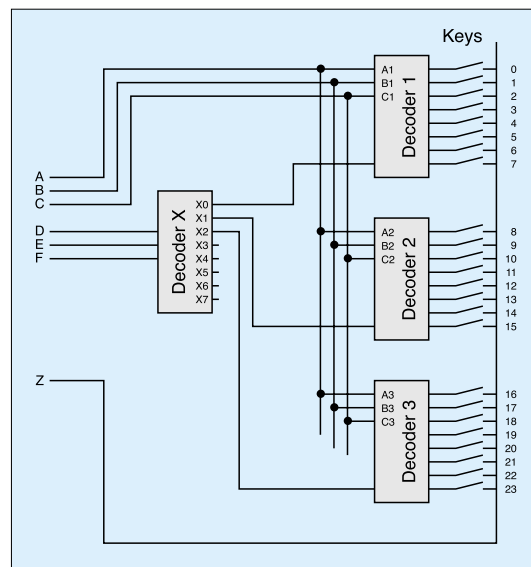

Figure 7: A simple 6-bit polyphonic keyboard decoder.
The answer lies in Figure 7 (see right), which represents the 'digitally scanned polyphonic keyboard' developed in 1973 by Dave Rossum and Scott Wedge of Emu (later renamed Emu) Systems.
If you've never studied digital electronics, you might think that you can't possibly understand this diagram, but I assure you that you can. Stick with me for a while longer, and I'll demonstrate how the 24 switches on the far right of Figure 7 can be used as the key contacts of a polyphonic synthesizer. Furthermore, I will perform magic, and show you that the single data line Z can carry all the information needed to tell the instrument which combination of keys is pressed at any given time.
Now let's return to Figure 7. We'll start by considering what happens in Decoder X if you treat the three inputs D, E and F as a binary number. Let's assume that, if the voltage at the input is 'high' (+5V) it represents a 1 and if it is 'low' (0V) it represents a 0. Since there are three lines, we can use them to represent a 3-bit binary number. Table 2 below shows all the possible values.
► 001001. This means that Decoder X enables Decoder 2, and that key 9 is 'high'. The important thing here is that, across the whole keyboard (yes... those switches in Figure 7 represent real keys on a synth keyboard) only key 9 is 'high'. But if you *don't* have key 9 depressed at that moment, the switch is open, and the voltage on the Z line (the output) remains 'low'. If, on the other hand, the key is depressed, the voltage on Z is 'high', and the system detects the status of the pressed key.